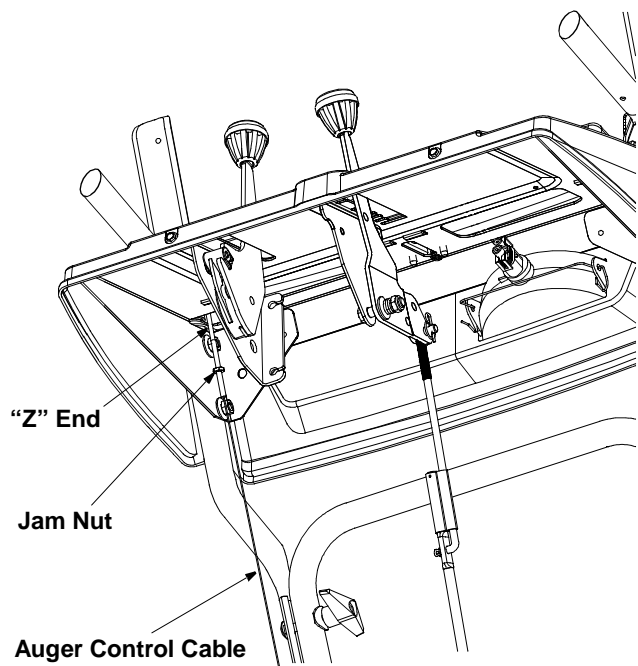
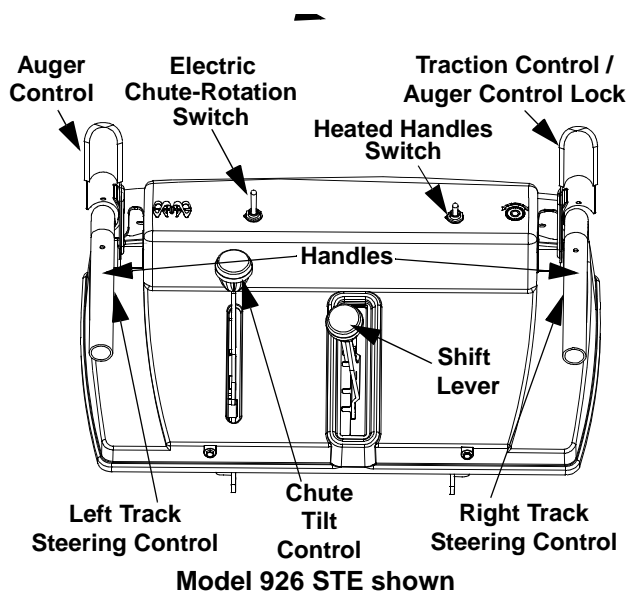

Figure 5
Figure 7
- Push forward on the auger control (Refer to Figure 7) until the small rubber bumper contacts the upper handle. There should be slack in the cable. See Figure 5.
- Loosen the jam nut and thread the cable in (for less slack) or out (for more slack) as necessary. See Figure 5.
- Move the shift lever into the sixth (6) position.
- a. With the traction control (see Figure 7) released, push the snow thrower forward, then pull it back. Disregarding the overall weight of the snow thrower, the machine should otherwise move freely.
If you experienced resistance either when repositioning the shift lever (see Figure 7) from position 6 to R2 or when attempting to move the machine forward or rearward with the traction control released, your snow thrower's traction control is in need of adjustment and you should NOT operate the snow thrower before completing the adjustment as follows:
The auger control is located on the left handle. See Figure 7. Squeeze the auger control lever to engage the augers. Release to stop the snow throwing action (the traction control must also be released).
The traction control is located on the right handle. See Figure 7. Squeeze the traction control to engage the wheel drive. Release to stop.
The left and right track steering controls are located on the underside of the handles and are used to assist in steering the snow thrower. See Figure 7. Squeeze the right track control when turning right, squeeze the left control when turning left. Operate your snow thrower in open areas until you become familiar with these controls.
The heated handles switch is located on the right side of the snow thrower handle panel. See Figure 7. To activate the heated handles, toggle the switch to the right to generate heat within the handle grips.
The distance snow is thrown can be changed by adjusting the angle of the chute assembly. Move the chute tilt control forward to decrease the distance, toward the rear to increase. See Figure 7.